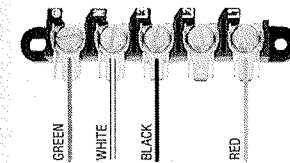

Fig. 3
- Attach the power cord ground conductor (green wire) to the ground terminal marked with the ground symbol. Tighten screw until ground conductor is secure. (See Fig. 3)
- Attach the two remaining power cord phase conductors (left = black wire and right = red wire) to the phase terminals (marked L3 & L1). Tighten screws so that the power conductors are secure. (See Fig. 3)